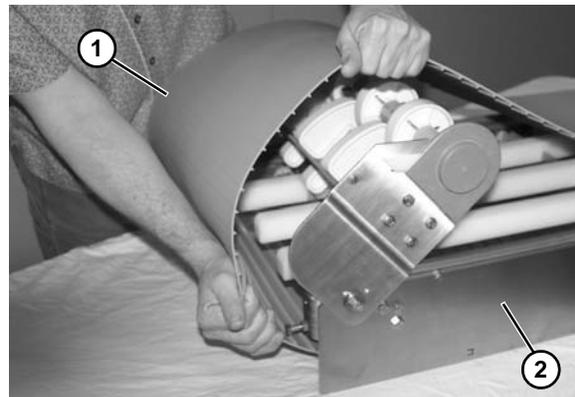

Figure 40
6. Remove the belt (Figure 40, item 1) from the conveyor (Figure 40, item 2).